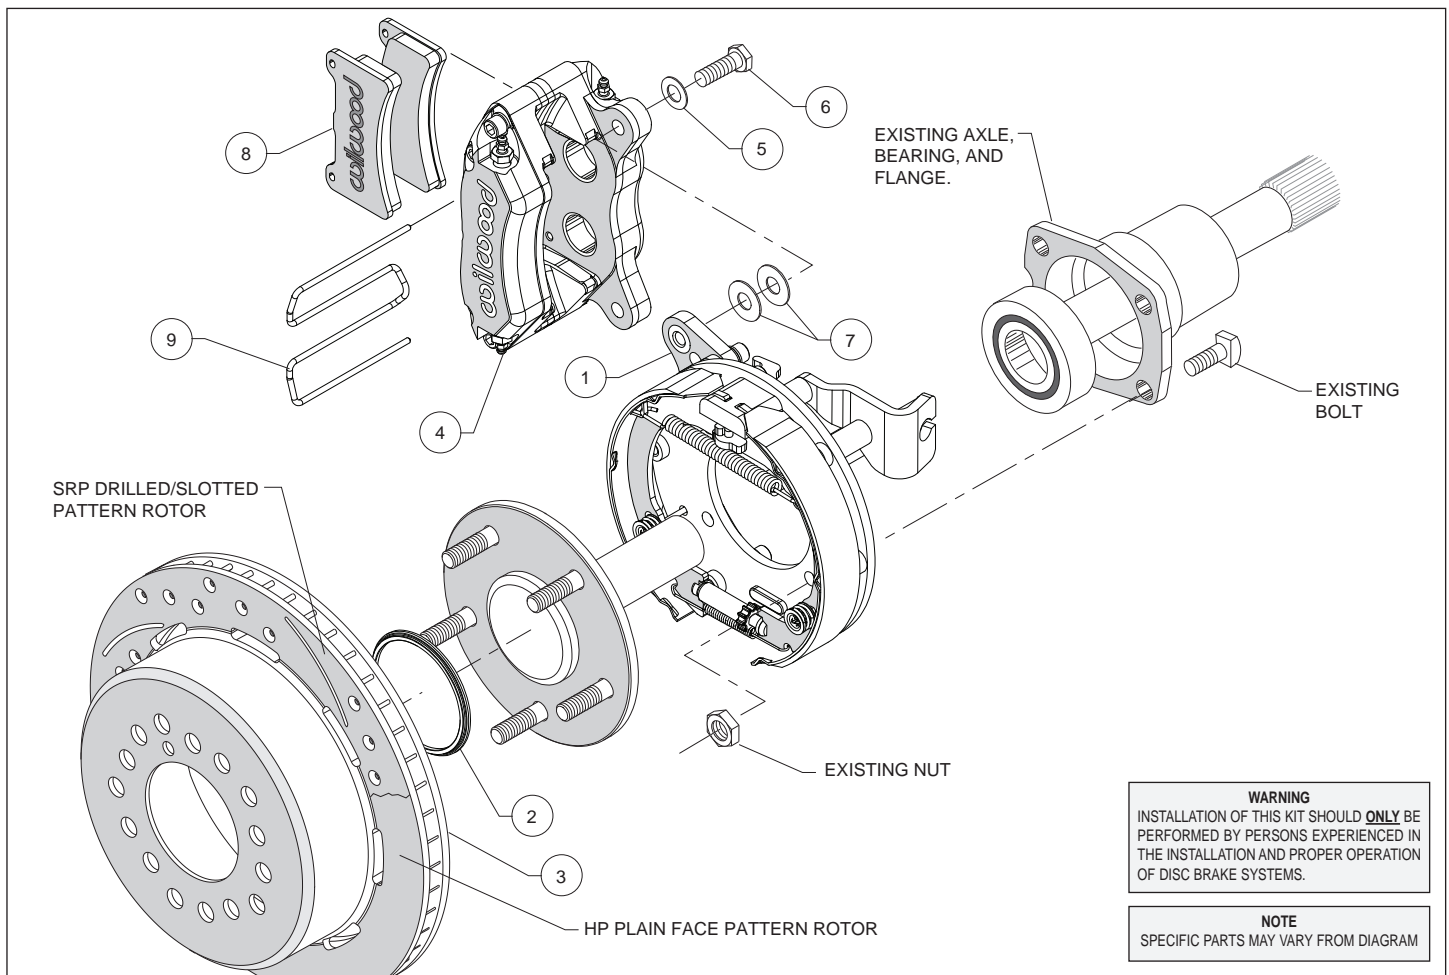
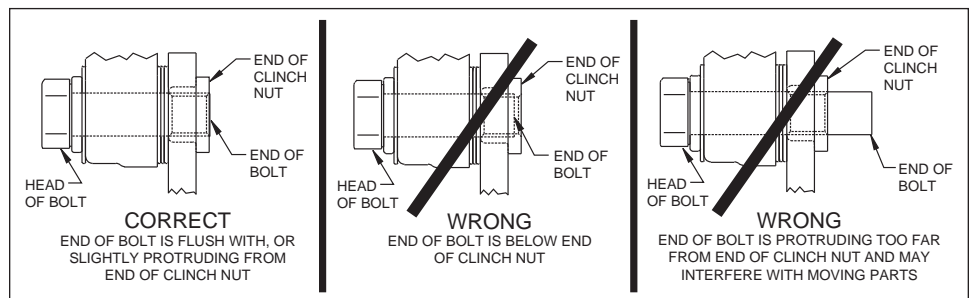

Figure 1. Typical Installation Configuration
Figure 4. Clinch Nut Engagement Diagram
Assembly Instructions (numbers in parenthesis refer to the parts list, and Figure 1 on the preceding pages): **CAUTION:** All mounting bolts must fully engage clinch nuts. Be sure to check that all bolts are either flush or protruding through flanged side of clinch nut after shimming, Figure 4.
- Orient the bracket assembly (1), as shown in Figure 1, and mount to the axle housing flange using the Original Equipment Manufacturer (OEM) bolts and nuts, Figure 1. Ensure that the bracket assembly backing plate fits flush against the axle housing flange. Apply red *Loctite*® 271 to the OEM bolt threads and torque to OEM specifications.
- Slide the rotor registration adapter (2) onto the axle register on the axle flange with the smaller O.D. facing toward the rotor/hat (3), Photo 1. Align the correct hole pattern in the rotor/hat with the stud pattern on the axle flange and slide into place, Figure 1 and Photo 2. **NOTE:** The rotor/hat must fit flush against the axle flange or excessive rotor run out may result. Install three lug nuts (finger tight) to keep the rotor/hat assembly in place while continuing with the installation. **NOTE:** Some OEM and after market axles come with stud sizes larger than 0.50" diameter. Verify stud size and have a qualified machine shop drill the bolt circle of the hat/rotor to the correct stud size, if necessary.
•**NOTE:** Please reference the caution statement at the beginning of the assembly instructions. Mount the caliper (4) onto the caliper mounting bracket (1) using bolts (6) and washers (5), as shown in Figure 1. Initially place two .035" thick shims (7) on each bolt between the caliper and the bracket, Photo 3. Temporarily tighten the mounting bolts and view the rotor (3) through the top opening of the caliper. The rotor should be centered in the caliper, Photo 4. If not, adjust by adding or subtracting shims between the bracket and the caliper. Always use the same amount of shims on each of the two mounting bolts. **NOTE:** The end of each bolt must be flush with or slightly protruding from the head of the clinch nut, as shown in Figure 4. If necessary place spare shims between washer (6) and caliper mounting ear to achieve the proper clinch nut engagement. Once the caliper alignment and clinch nut engagement are correct, remove the bolts one at a time, apply red *Loctite*® 271 to bolt threads, and torque to 40 ft-lb.